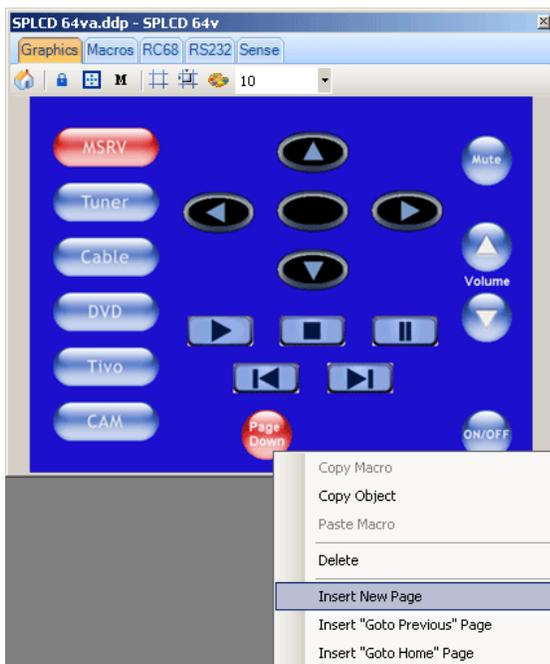

Figure 25 – Insert New Page
3. Right-click on the button from **Step 2** and select **Insert New Page** from the **pop-up**. (**Figure 25**) While programming in **Universal Dragon**, once configured as a **'Go To' Button**, the button can double clicked to navigate as configured, i.e. **Page Down**.